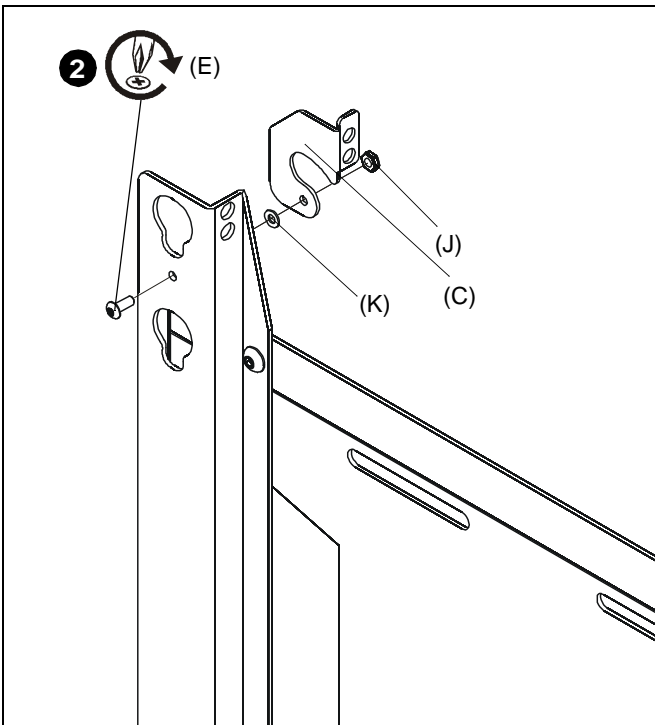

Figure 2
2. Attach latching flag (C) to left vertical bracket (B) using the #10-24 x 1/2" Phillips machine screw (E), nylon washer (K) and #10-24 Nylock nut (J). (See Figure 2)